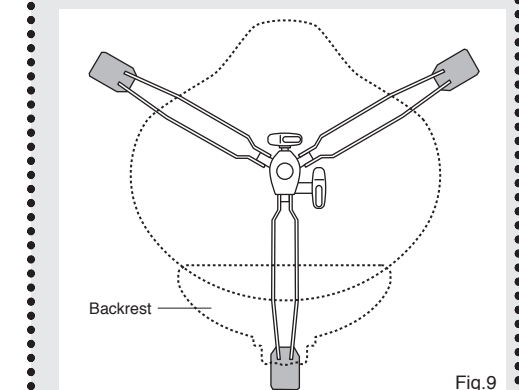

Fig. 9
- When using the Backrest, align one of the legs under the Backrest as shown for optimum stability and to reduce the chance of tipping backwards from leaning back too far (Fig. 9).